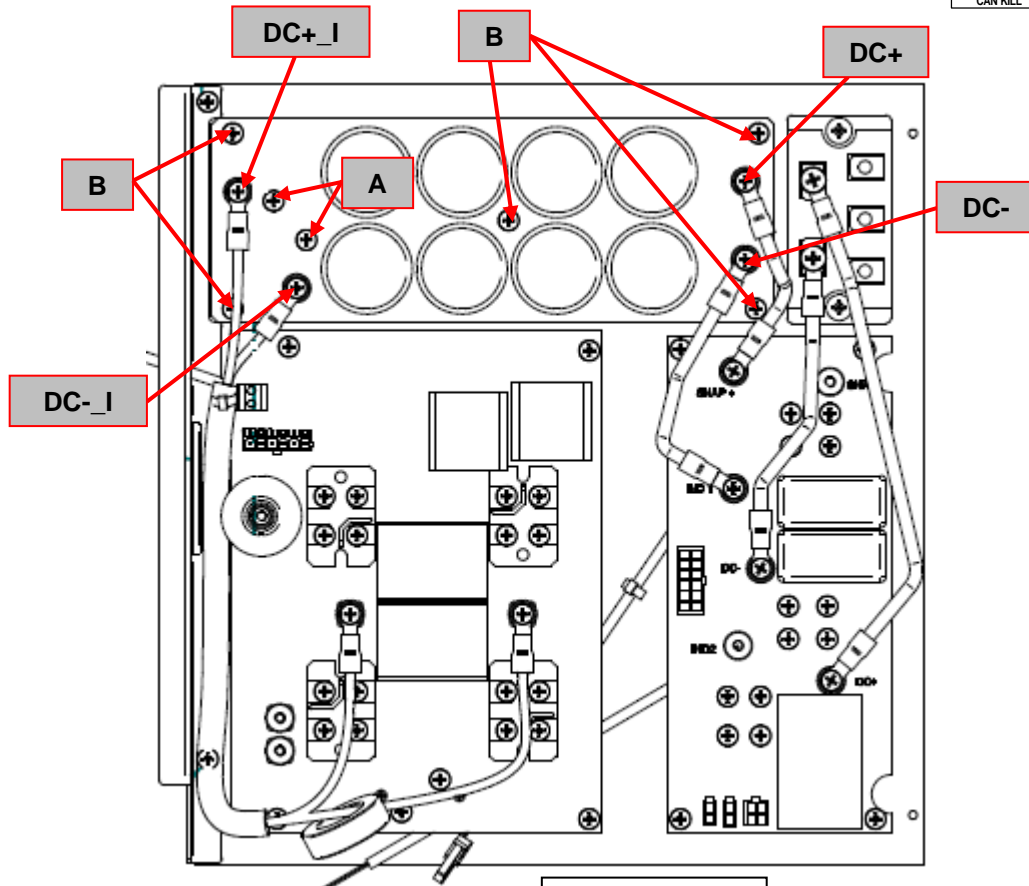

Figure 27
3. Locate the Caps board W05X1470 on the right side of the machine, see **Figure 27**
4. Using the Phillips screwdriver remove the cables from terminal **DC+**, **DC-**, **DC+_I** and **DC-_I**. See **Figure 27**
5. Using the Phillips screwdriver remove the 2 screws (**A**) that connect the Caps board to the resistor R3. See **Figure 27**
6. Using the Phillips screwdriver remove the 5 screws (**B**) and remove carefully the Caps board from the machine. See **Figure 27**
4. Using the screws previously removed reconnect the cables to terminal **DC+**, **DC-**, **DC+_I** and **DC-_I** (torque 1,5Nm max.). See **Figure 27**